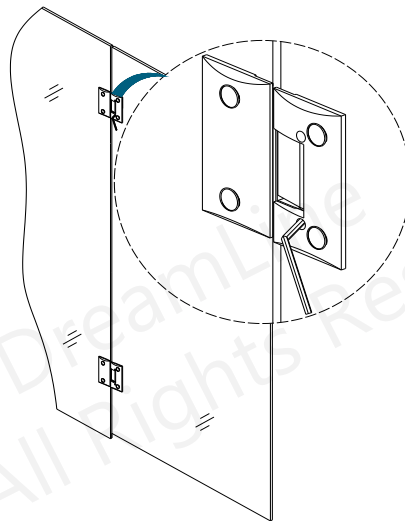

Figure 2
**2.** The hinges are set to overclose at 172° degrees. You can change this angle by using the adjustment screws on the hinge plate. (Figure 2)